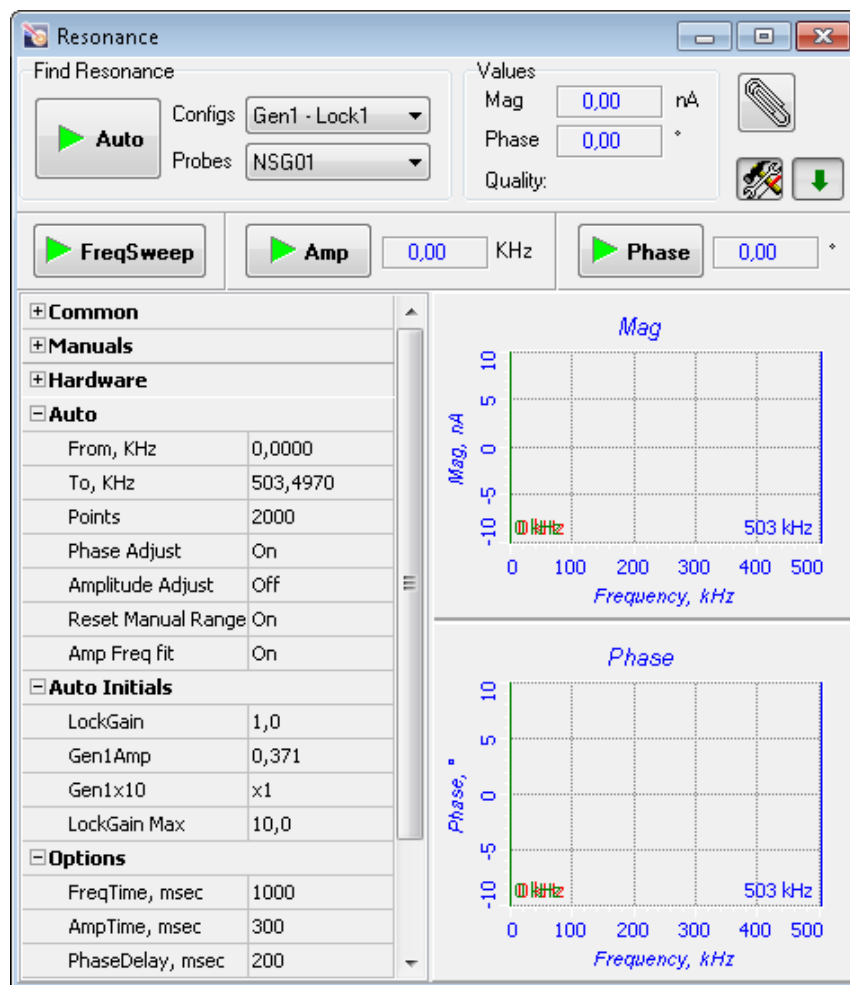

Fig. 8-2. Resonance window. Piezodrive adjustable parameters panel is opened
- c) Open the Frequency response parameters panel by clicking the  button (Fig. 8-2).
Parameters of the piezodrive operating frequency can be viewed and edited in the **Auto** group of the Frequency response parameters panel (opens by clicking the  button) (Fig. 8-2).
- To start automatic adjustment of the generator output parameters, click the  button in the **Find Resonance** panel (see Fig. 8-2). This will provide:
3. Open the Frequency response parameters panel (see Fig. 8-2) by clicking the  button in the Resonance window Control.
For automatic setting the predefined level of **Mag**, click the  **Amp** button in the Additional adjustments panel (see Fig. 8-2, opens by clicking the  button). In automatic setting, the gain (**Lock Gain**) is adjusted first and then the generator output amplitude (**Gen1Amp**) is fitted. If the adjusted **Mag** level is not equal to the predefined one (possibly, due to discreteness of **Lock Gain** and **Gen1Amp**), repeat automatic adjustment by clicking the  **Amp** button.